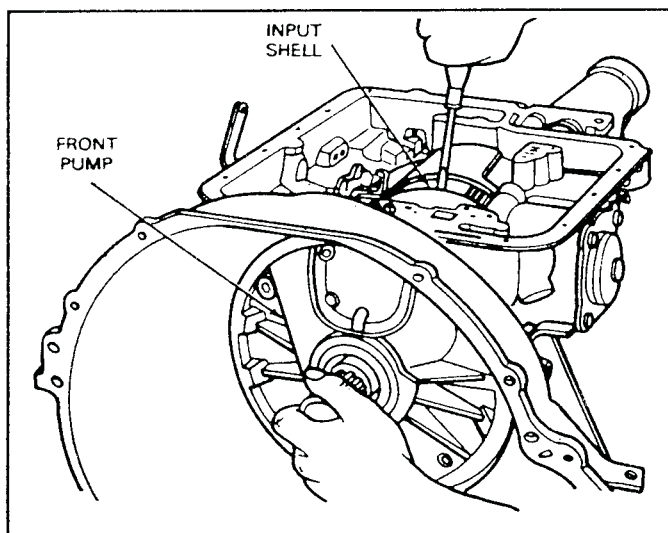

FIG. 19 Removing Front Pump
8. Remove the front pump attaching bolts. Pry the gear train forward as shown in Fig. 19 to remove the pump.